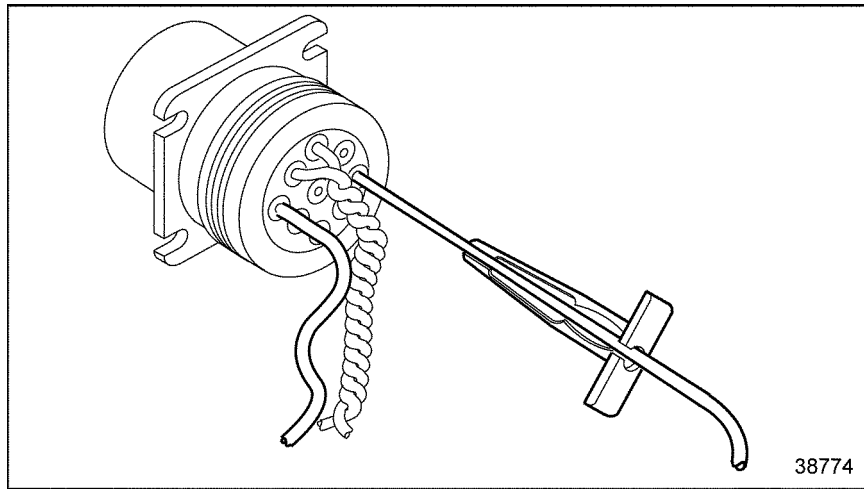

Figure 17-12 Removal Tool Position
1. With the rear insert toward you, snap the appropriate size remover tool over the cable of contact to be removed. See Figure 17-12.